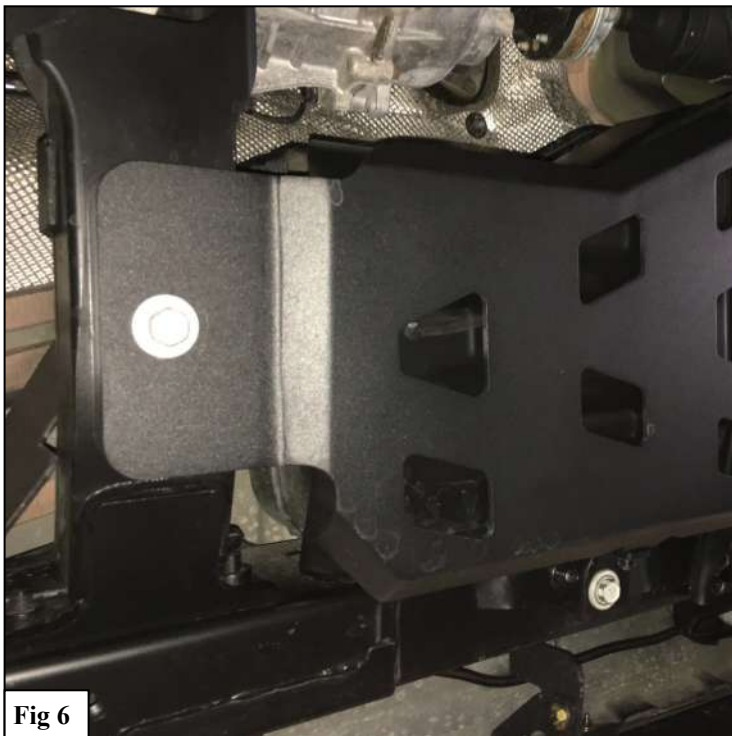

Fig 6
8. Use the OEM Hardware on the cross member located just in front of the gas tank to loosely attach the Skid Plate (1). See **Figure 6**.